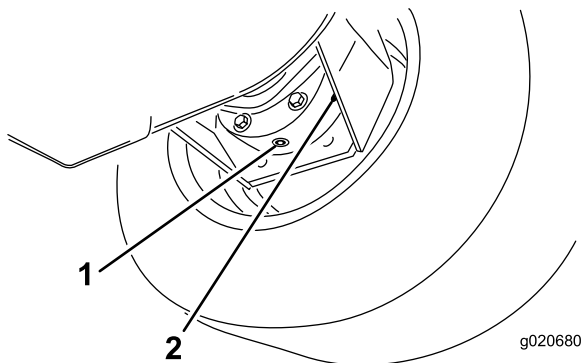

**Figure 57**
1. With the machine on a level surface, position a wheel so that 1 of the check plugs is at the lowest (6 o'clock) position (Figure 57).